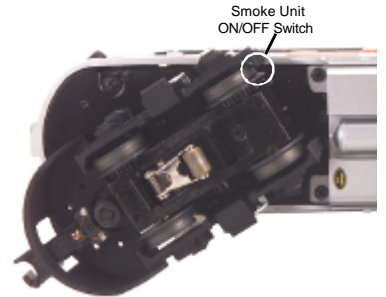

Figure 4. Smoke Unit ON/OFF Switch
3. If you choose not to prime the unit with fluid, turn the smoke unit switch located under the engine to the OFF position (see Fig. 4 on pg. 10). **Running the engine without a primed smoke unit may cause damage.** See the “ProtoSmoke Unit Operation” section of this book for more information on smoke unit maintenance.
If you choose not to add the fluid (or have already added the fluid but choose to run smoke-free), turn off the smoke unit switch located under the engine (see Fig. 4). **Failure either to add fluid to the unit or to turn it off may damage the smoke unit heating element and/or wicking material.**